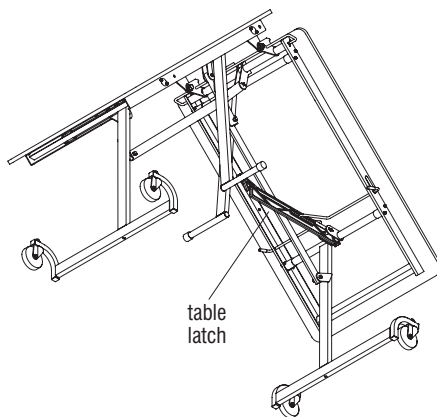

Figure 2
2. Move under the table and locate the broken table latch (Figure 2).